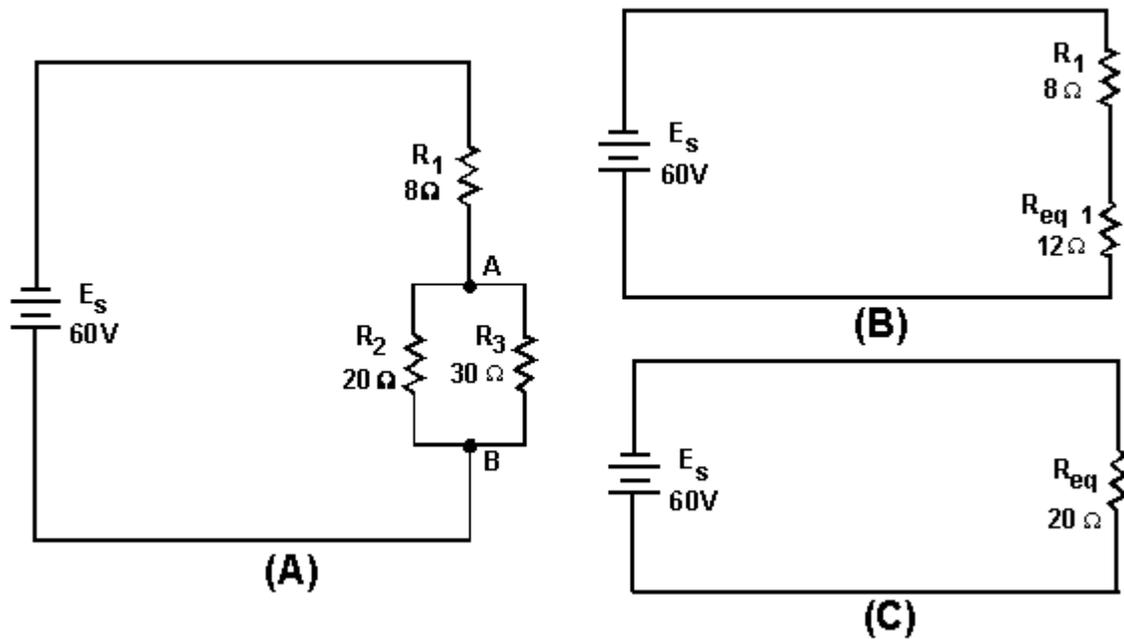

Figure 3-54.—Example combination circuit.
The basic technique used for solving dc combination-circuit problems is the use of equivalent circuits. To simplify a complex circuit to a simple circuit containing only one load, equivalent circuits are substituted (on paper) for the complex circuit they represent. To demonstrate the method used to solve combination circuit problems, the network shown in figure 3-54(A) will be used to calculate various circuit quantities, such as resistance, current, voltage, and power.
Now that the equivalent resistance for R_2 and R_3 has been calculated, the circuit can be redrawn as a series circuit as shown in figure 3-54(B).
The original circuit can be redrawn with a single resistor that represents the equivalent resistance of the entire circuit as shown in figure 3-54(C).
To find the voltage dropped across R_1 , R_2 , and R_3 , refer to figure 3-54(B). R_{eq1} represents the parallel network of R_2 and R_3 . Since the voltage across each branch of a parallel circuit is equal, the voltage across R_{eq1} (E_{eq1}) will be equal to the voltage across R_2 (E_{R2}) and also equal to the voltage across R_3 (E_{R3}).
To find the current through R_2 and R_3 , refer to the original circuit, figure 3-54(A). You know E_{R_2} and E_{R_3} from previous calculation.
Having computed all the currents and voltages of figure 3-54, a complete description of the operation of the circuit can be made. The total current of 3 amps leaves the negative terminal of the battery and flows through the 8-ohm resistor (R_1). In so doing, a voltage drop of 24 volts occurs across resistor R_1 . At point A, this 3-ampere current divides into two currents. Of the total current, 1.8 amps flows through the 20-ohm resistor. The remaining current of 1.2 amps flows from point A, down through the 30-ohm resistor to point B. This current produces a voltage drop of 36 volts across the 30-ohm resistor. (Notice that the voltage drops across the 20- and 30-ohm resistors are the same.) The two branch currents of 1.8 and 1.2 amps combine at junction B and the total current of 3 amps flows back to the source. The action of the circuit has been completely described with the exception of power consumed, which could be described using the values previously computed.